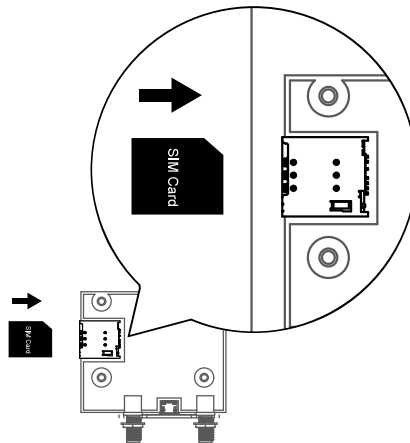

Figure 37. SIM Card Insertion.
- 2) Insert a 3G/4G Micro SIM Card in the tray, make sure the gold contacts are facing down and the notch is in the upper right corner. See figure 37.